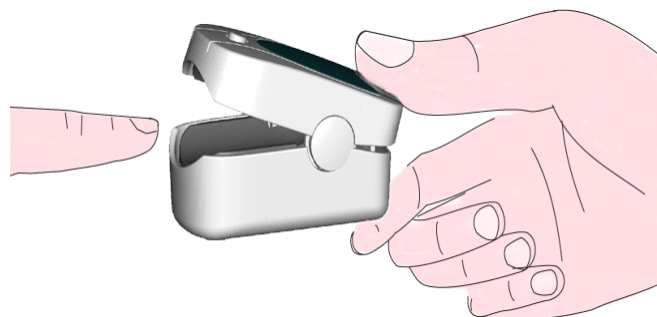

Figure 5. put finger in position
7.2 Open the clip as shown in Figure 5.